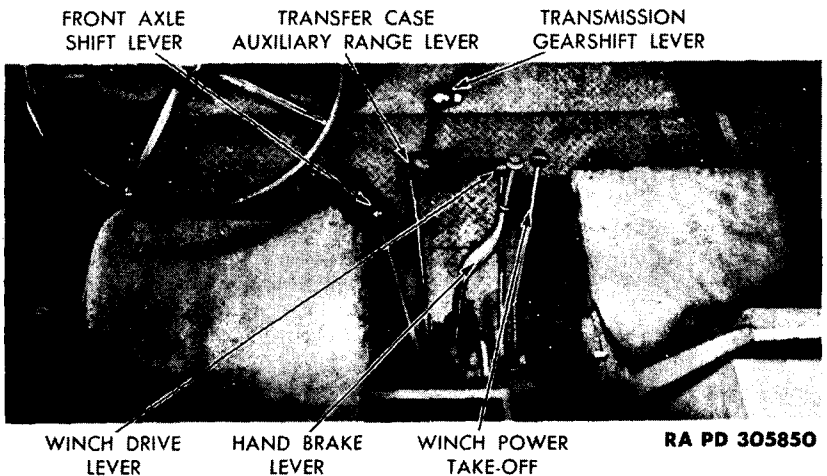

Figure 13—Control Levers, Prime Mover and Bridge Erection Truck
a. **Controls.** This winch, mounted at the front of the vehicle, can be operated from the driver's seat. On the bridge erection truck it can also be operated from the boom operator's stand at the left rear side of the cab. When operating the bridge erection winch from the driver's seat, it is controlled by the winch drive lever, the vehicle clutch and the engine accelerator. When controlled from the boom operator's stand, it is operated by the winch power take-off lever, the declutching pedal, and the foot throttle (fig. 13).